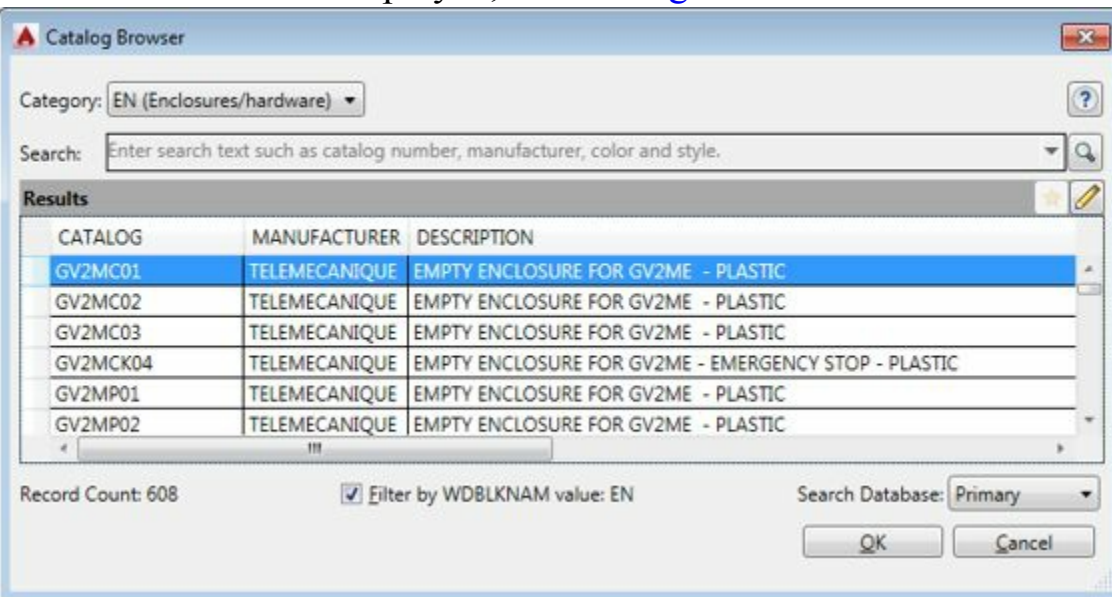

Figure-26. List of enclosures
- Make the **Search** field empty and click on the **Search** button from the **Catalog Browser**. The list of enclosures will be displayed; refer to Figure-26.